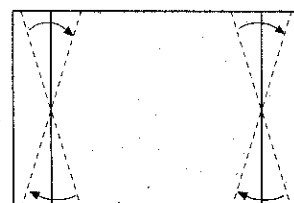

Fig. 8
- Adjust the VERTICAL ANGLE to obtain condition as in (fig. 8).